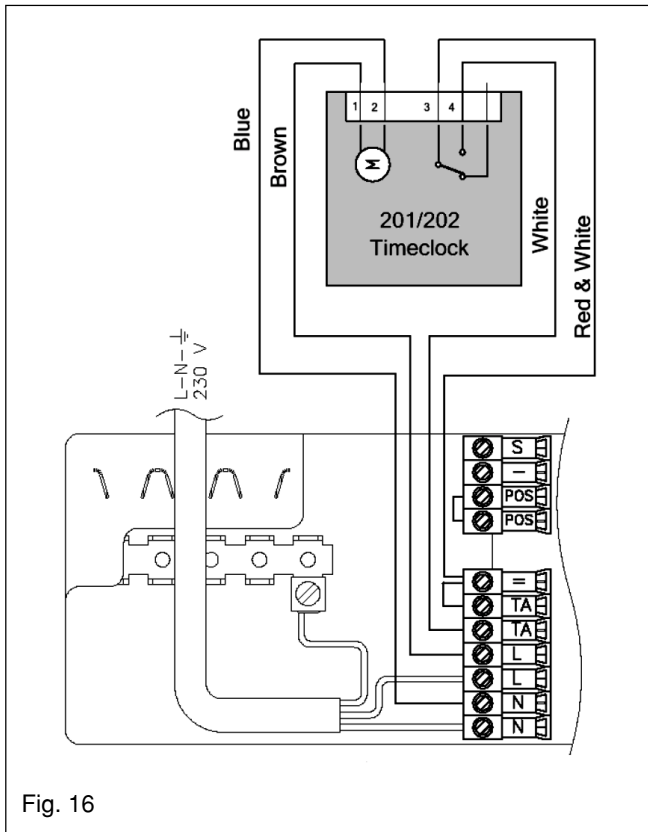

Fig. 16
##### 4.7.3 CONNECTING THE MAINS (230V) INPUT (see fig. 16)
Connect the supply cable wires (LIVE, and NEUTRAL) to their corresponding terminals on the appliance terminal block. Connect the EARTH wire to the EARTH block (see fig. 16) ensuring that it's left slightly longer than the others, this will prevent strain on the EARTH wire should the cable become taut.
- using the clock wiring harness supplied in the accessory pack, connect the 4-wires to the clock as shown in fig 16.